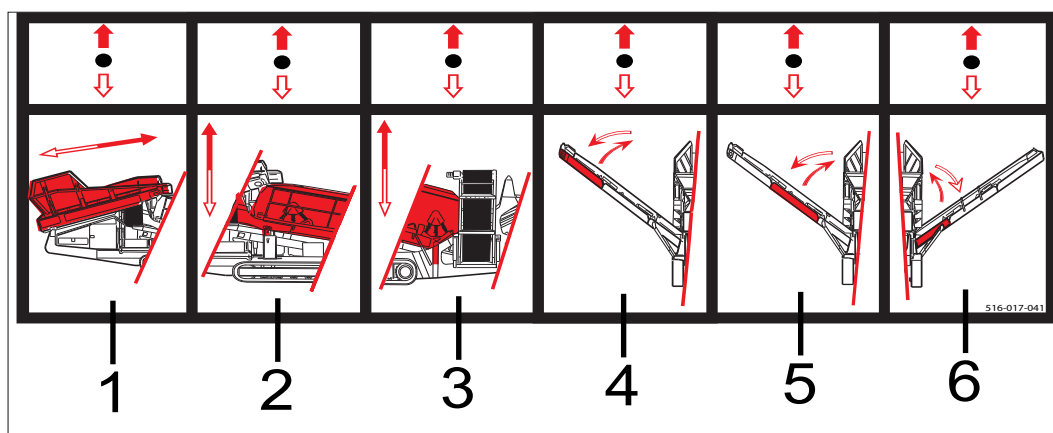
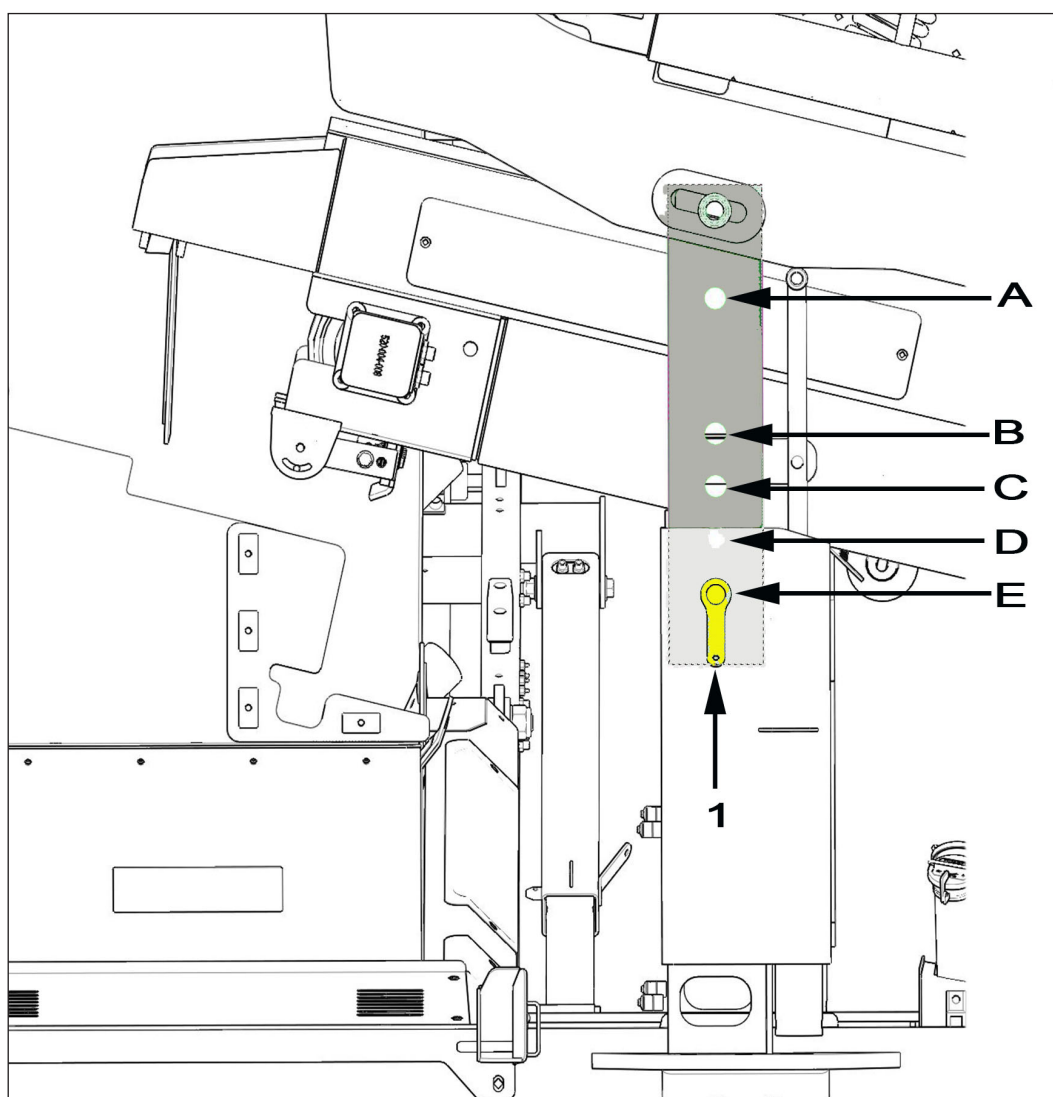

Figure 5.4 - RHS Control Bank Decal
Figure 5.5 - Screenbox Transport Position
1. Raise the screen box using lever (2) Figure 5.4 and release the weight on the pin, (Item 1 Figure 5.5).